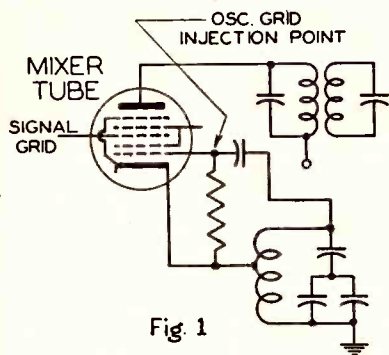

Fig 1
8. Check for presence of oscillator bias with an electronic voltmeter. A substitution check of oscillator performance can also be made: turn modulation off and tune test oscillator to a frequency which is the sum of the intermediate frequency and the frequency of a strong local broadcast station. (Every service shop should be equipped with a good outside antenna.) The test oscillator output is substituted for the local oscillator output as shown in Fig. 1.